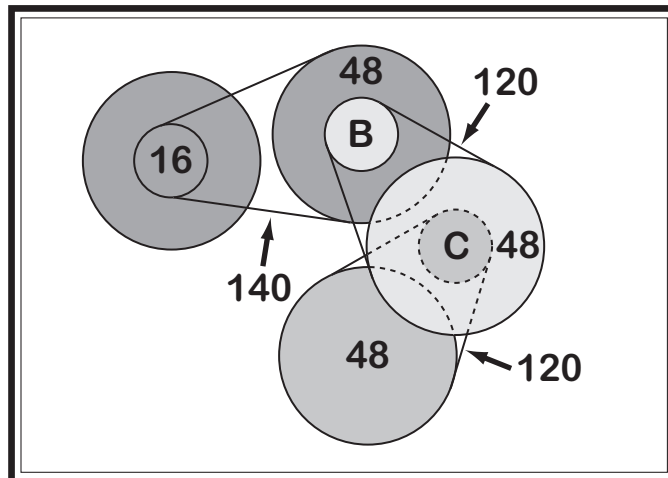

Figure 56. Feed rate pulley and timing belt configuration.
6. Arrange the timing belts and pulleys as indicated in the illustration above the feed rate chart (see **Figures 56–57**) and the pulley identification column in the chart.